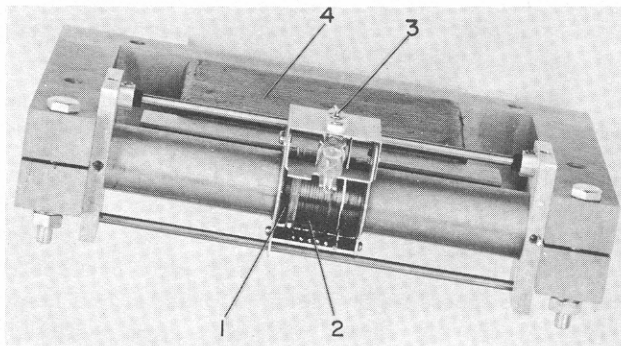

Figure 4.1. View of magnetic structure and pen motor.
The servo motor consists of a center-tapped drive coil (2, Figure 4.1) wound on a lightweight lucite form, which is positioned in the uniform magnetic field of an Alnico permanent magnet (4, Figure 4.1). The interaction between the current in the coil and the field from the permanent magnet is used to move the coil in a direction to reduce the error voltage. When the coil is correctly positioned, the error voltage and the current in the coil become zero, and there is no further force on the coil. Thereafter, any slight movement from the correct null position will produce an electrical restoring force on the coil. Full current flows through the coil for a displacement of less than 1/32 inch from the true null, resulting in a high degree of static accuracy (refer to paragraph 4.9). (This ability of the servo to provide full current in the drive coil for a displacement of less than 1/32 inch from null should not be confused with dynamic error. When the coil assembly is moving, velocity feedback reduces the servo loop gain and thus increases the error a proportional amount.)
4.5 VELOCITY FEEDBACK. A second winding on the drive-coil structure generates a voltage proportional to the coil velocity (see 1, Figure 4.1). This damping voltage is fed to the input of the dc amplifier to reduce the servo loop gain at high frequencies and the time constant of the drive-coil circuit. As a result, an adequate degree of stabilization can be obtained consistent with a reasonable bandwidth of the pen servo and the desired static accuracy. Slower writing speeds are obtained as the amount of damping voltage is increased.